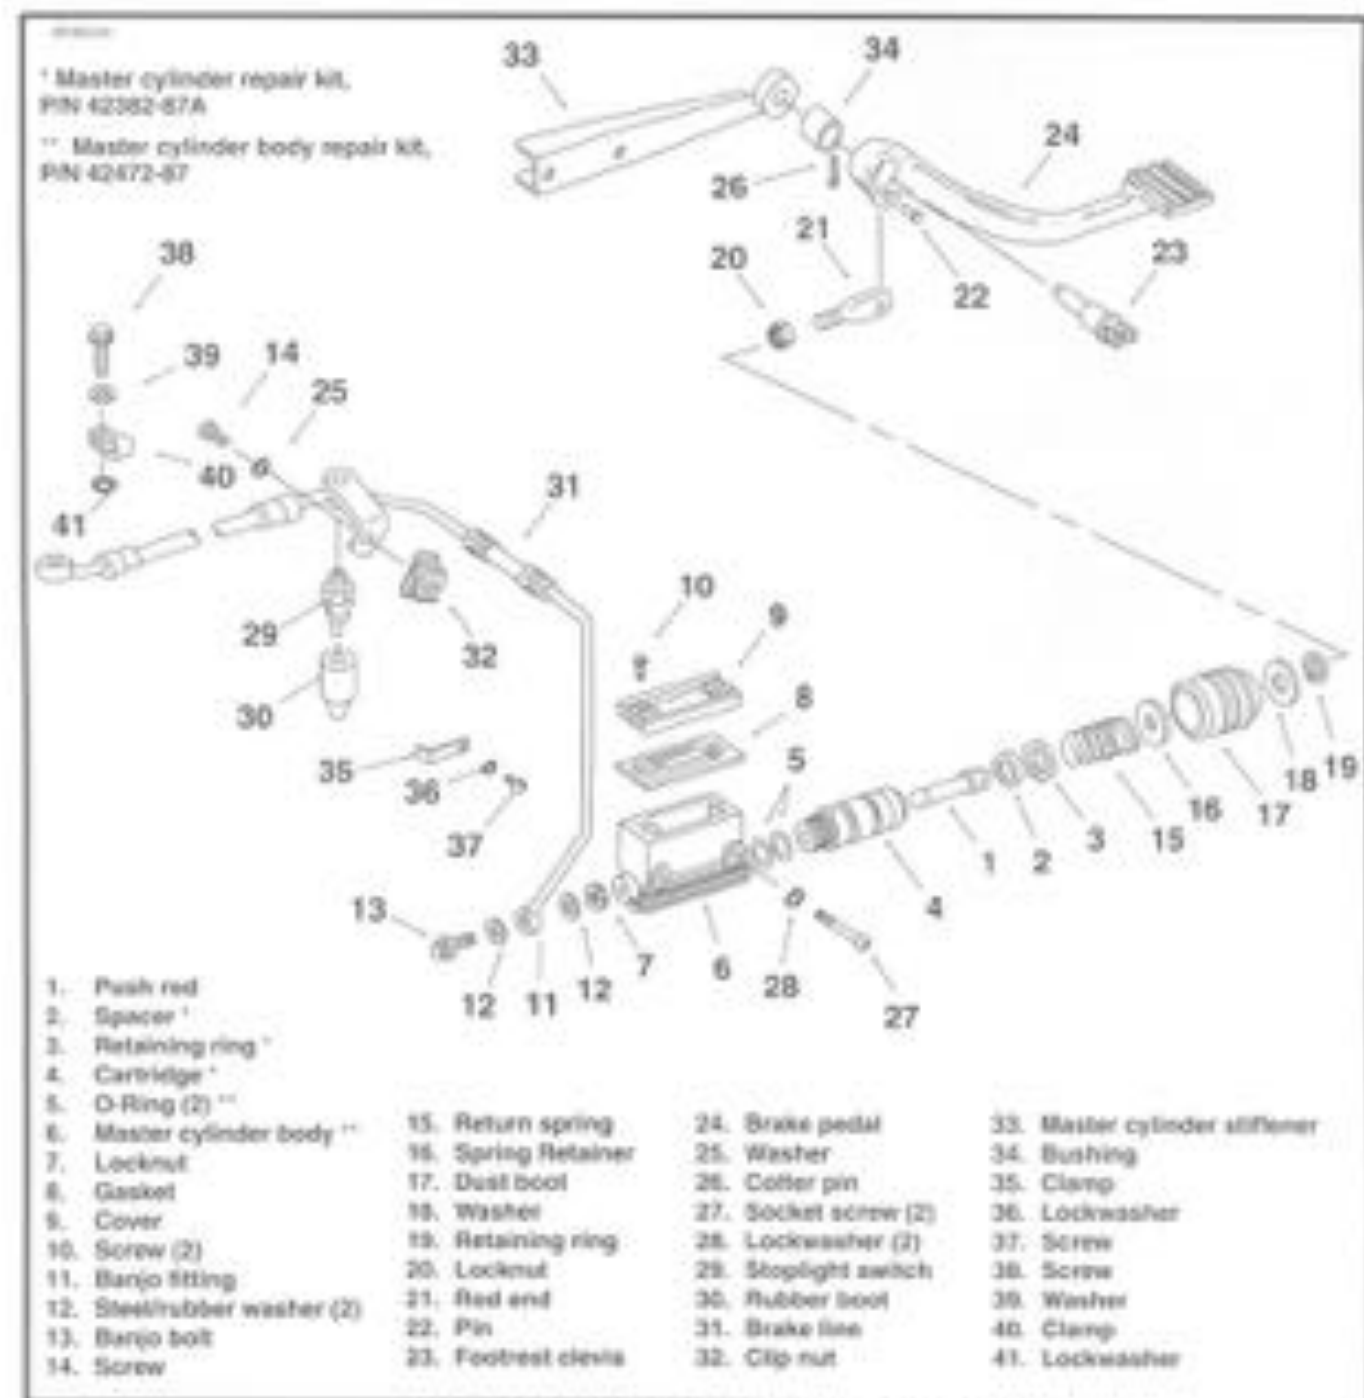
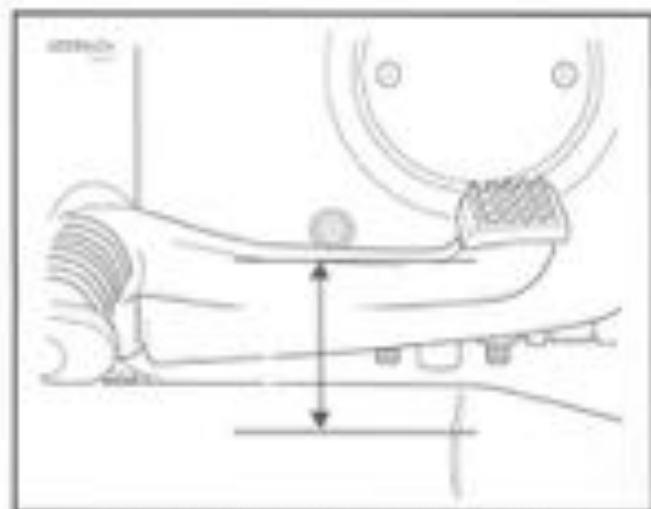

Figure 2-47. Rear Brake Master Cylinder and Linkage
Figure 2-48. Rear Brake Pedal Adjustment
See Figure 2-47. Loosen locknut (20). With motorcycle on level surface, adjust push rod (1) so that brake pedal is parallel with floor (see Figure 2-48). Tighten locknut.
REMOVAL/DISASSEMBLY (Figure 2-47)
CLEANING, INSPECTION AND REPAIR (Figure 2-47)
1. See Figure 2-47. Insert original push rod (1) into bore at unthreaded end of cartridge (4). Install spacer (2) over end of push rod. Install retaining ring (3) in groove next to spacer inside cartridge bore. Slide two new O-rings (5) into external grooves on cartridge (4). Insert cartridge into master cylinder body (6). Align slot at top of cartridge with key in master cylinder body. Push cartridge through master cylinder body until cartridge bottoms in bore. Install locknut (7). Tighten locknut to 30-40 ft-lbs (41-54 Nm) torque.
2. Place protective shields over vise jaws and lightly clamp master cylinder body in vise with push rod (1) upright.
3. Place return spring (15) over push rod (1). Place spring retainer (16) on top of spring. Slip large I.D. end of dust boot (17) over retainer and spring. Seat the small I.D. end of boot against spring retainer (16). Be sure vent drain hole in boot is at the bottom.
4. Place washer (18) on top of boot. Push down on washer to compress spring (15). With spring compressed, install new retaining ring (16) in groove of push rod (1).
5. Position master cylinder next to sprocket cover. Position new steelrubber washers (12) on each side of banjo fitting (11). Insert bolt (13) through washers and banjo fitting. Thread bolt into cartridge and tighten to 17-22 ft-lbs (23-30 Nm) torque.
6. Position large I.D. end of dust boot (17) into groove in master cylinder body (6).
7. Install clamp (25), screw (37) and lockwasher (26) to secure rear brake line (37) to sprocket cover. Tighten clamp screw to 45-65 in-lbs (5-7 Nm) torque.
9. Turn push rod (1) at flats to thread on rod end (21).
10. Position master cylinder body (6) over mounting holes in sprocket cover. Secure with screws (27) and lockwashers (26). Tighten screws to 155-190 in-lbs (17.5-21.5 Nm) torque.
12. Adjust push rod until brake pedal is parallel with floor, as shown in Figure 2-48. Tighten locknut (20).